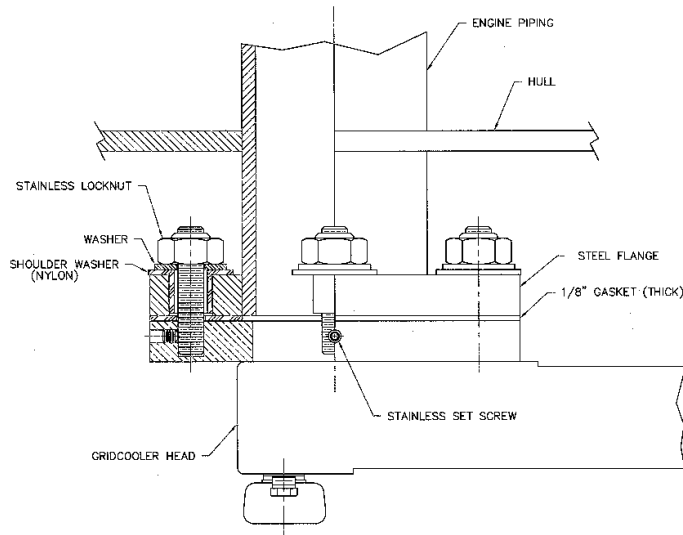

FIG. 20 Z SERIES mounting detail
- 3.2.2 The unit is also supplied with mating ASTM steel flanges and flange mounting hardware. The supplied hardware illustrated in Figure 20 includes nylon shoulder washers combined with neoprene gaskets to allow isolation from the vessel's hull. Special extra heavy lock nuts and washers are provided for a secure installation.